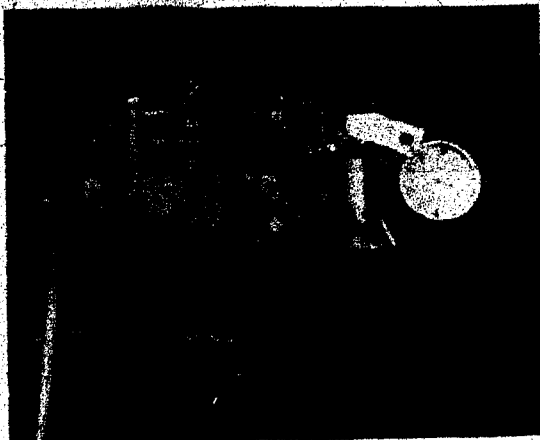

Fig. 1
1.1.1 Preparing the injection pump (Fig. 1)